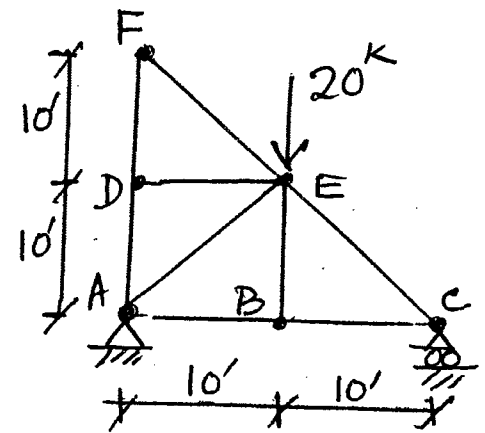

Fig. 4 (Q. no. 4)
4. For the truss shown in Fig. 4, compute horizontal component of the deflection of joint "F". Assume $E = 30,000$ ksi, $A_1 = 10$ in² for horizontal members and $A_2 = 15$ in² for vertical and diagonal members.